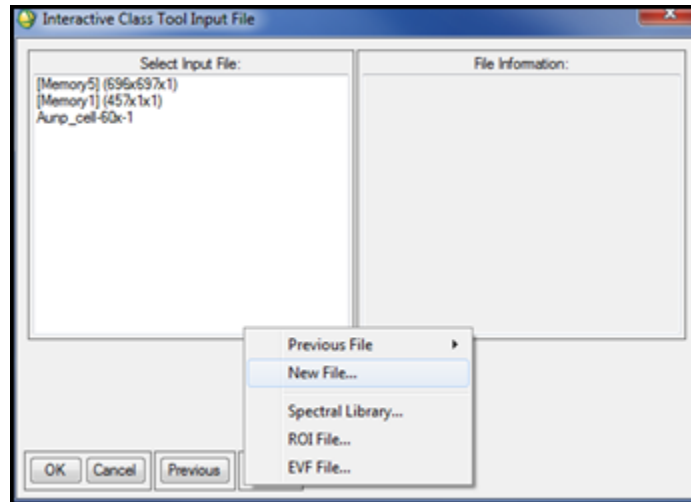

Figure 5.8c. Interactive Class Tool Input File window
- The Interactive Class Tool Input File window appears (Figure 5.8c).